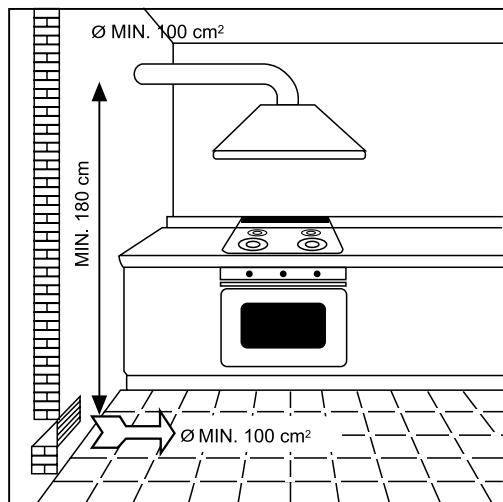

Fig. 5
- Install the appliance in a properly ventilated room only! For required ventilation size see Fig. 5.